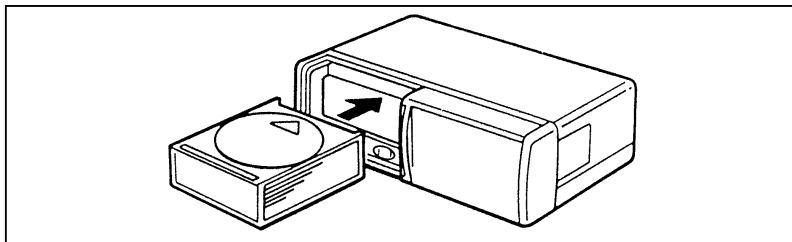

Figure 4
4. Insert loaded disc magazine into chamber unit with the arrow on top of the disc magazine pointing toward the changer (Figure 4). Make sure magazine is fully inserted into changer.